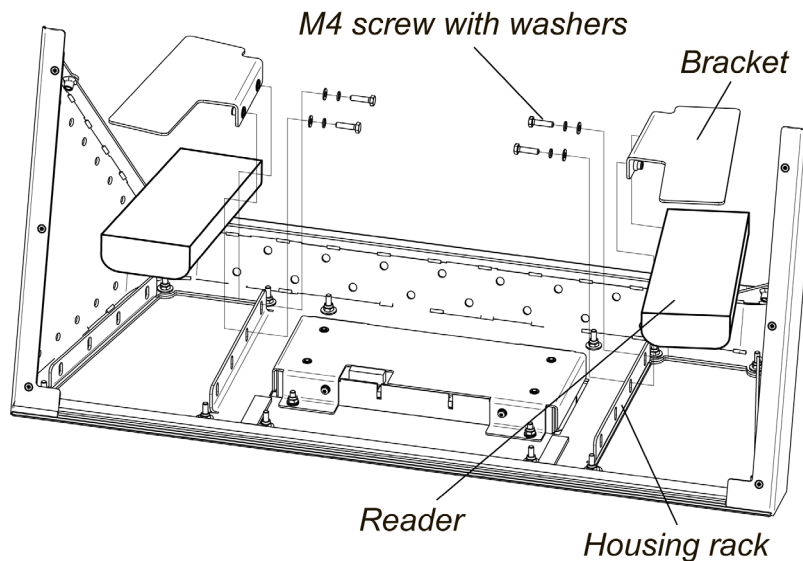

Figure 15. Built-in RFID-readers installation
13. If necessary, install proximity readers inside the turnstile under the upper plastic panel of the housing. Readers are mounted on special brackets: remove the brackets first from the housing rack by unscrewing two M2.5 screws with washers, then install the readers on the brackets and install the brackets back on the rack (see Fig. 15).